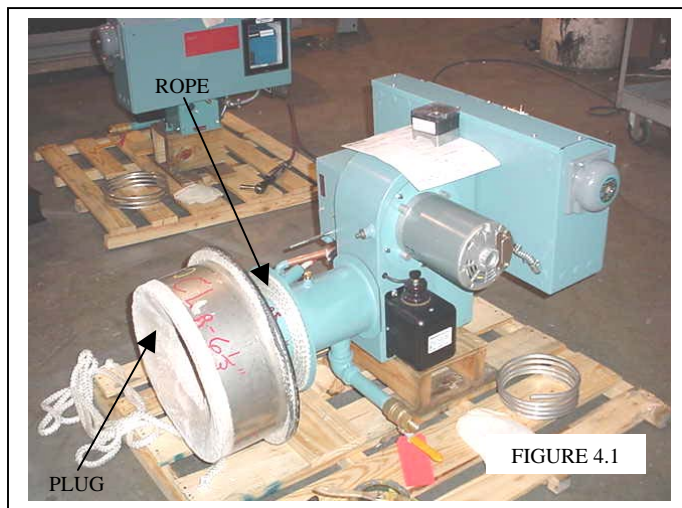

FIGURE 4.1
- 4.7 Install the burner plug (refractory front plate) onto the burner assembly using a length of rope gasket around burner insertion tube to seal the burner to the plug. See Figure 4.1. Bolt the burner to the plug using the nuts and clamps provided.